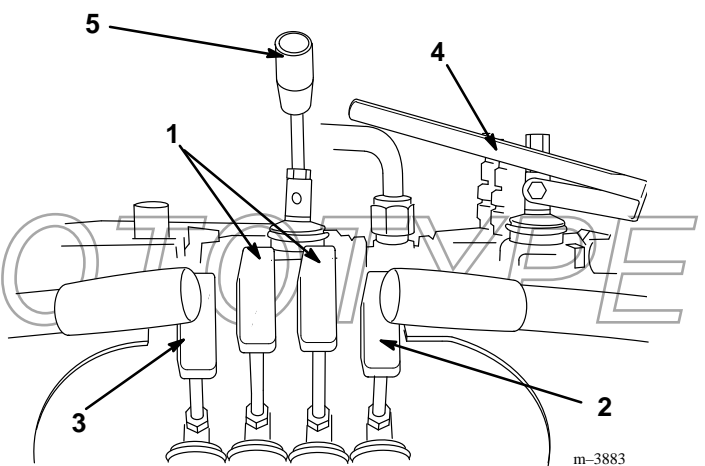

Figure 8
Become familiar with all the controls (Fig. 8) before you start the engine and operate the machine.
1. To go forward, slowly push the traction control levers forward (Fig. 8).
To go straight, apply equal pressure to both traction control levers (Fig. 8).
To turn, decrease pressure on the traction control lever toward the direction you want to turn (Fig. 8).
1. To go backward, slowly pull the traction control levers rearward (Fig. 8).